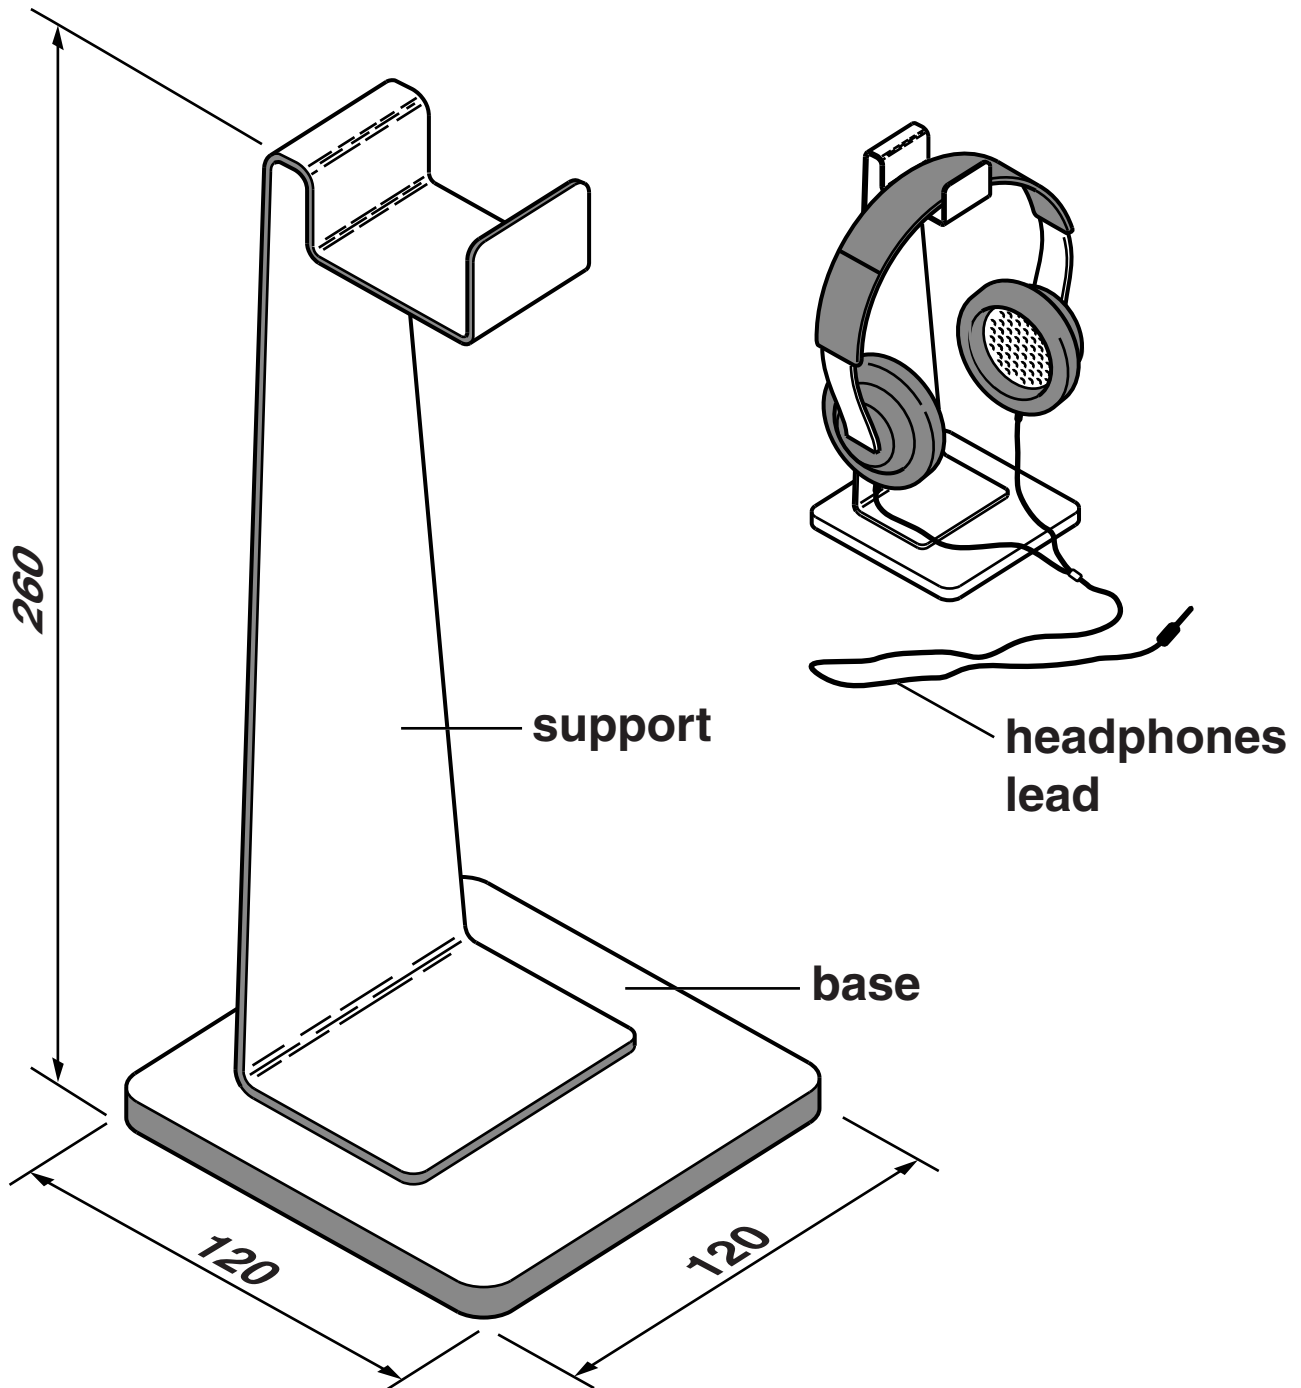

Fig. 1
- 1 Fig. 1 shows a headphones stand made entirely from acrylic.